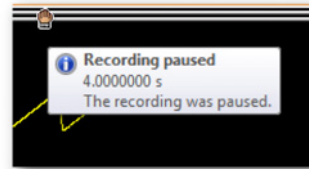

Figure 6.14: Event marker - tooltip
- K** Communication restored (OK): the communication with a remote front-end has been restored (is OK). This typically happens after a communication failure.
- P** Recording paused: the recording was paused. No data will be recorded from this point until the recording is resumed. A tooltip displays details, as shown in Figure 6.14.